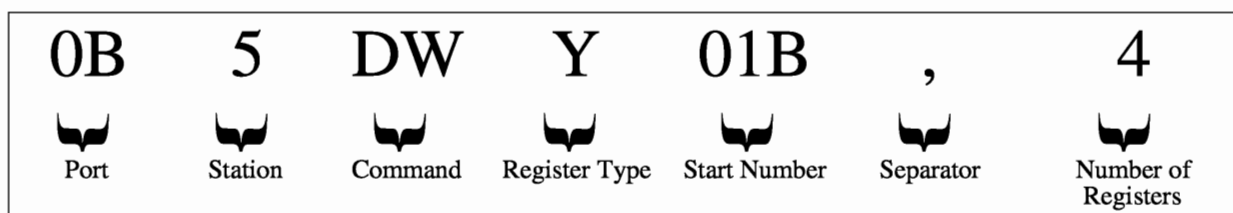

Figure 3-45 Example 7 of Remote Variable Address
**Note 7:** Example in figure 3-45 shows a '**Device/Register Write'** command issued to an EX250/500 device to write to 4 External Output Devices starting at device 1B ( Module 1, Channel B ). This will write to Devices Y1B, Y1C, Y1D, and Y1E ( that is Module 1, Channel B, C, D and E ).